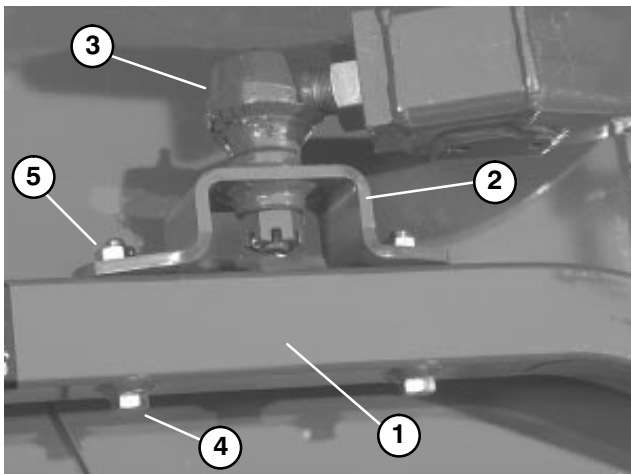

Figure 5
4. Secure ball joint mounts to each castor arm with (2) 7/16 - 14 x 3" lg. capscrews, and 7/16 - 14 flange nuts (Fig. 5).
5. Tighten large jam nut securing ball joint to lift arm (Fig. 5). When tightening jam nut, hold ball joint straight to permit proper oscillation during raising and lowering of cutting unit.